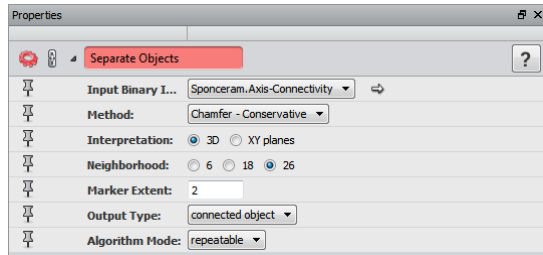

Figure 20.8: Separate Objects Module Configuration
- Apply a *Separate Objects* module on the output of the *Axis Connectivity* module. Set the Marker Extent port value to 2 and the Output Type port to *connected object*. In this example, we keep the default method (Chamfer - Conservative) since the pores are mostly spherical (see Figure 20.8).